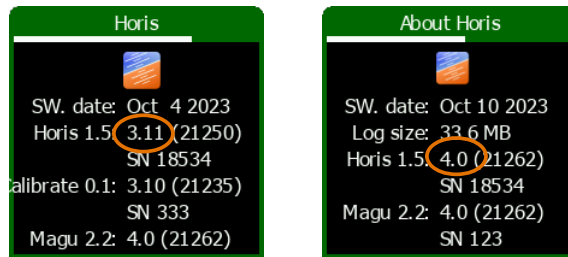

Figure 18: Version 3.xx (left) and version 4.xx (right).
3. Select **About** from the menu. Figure 18 illustrates two options.